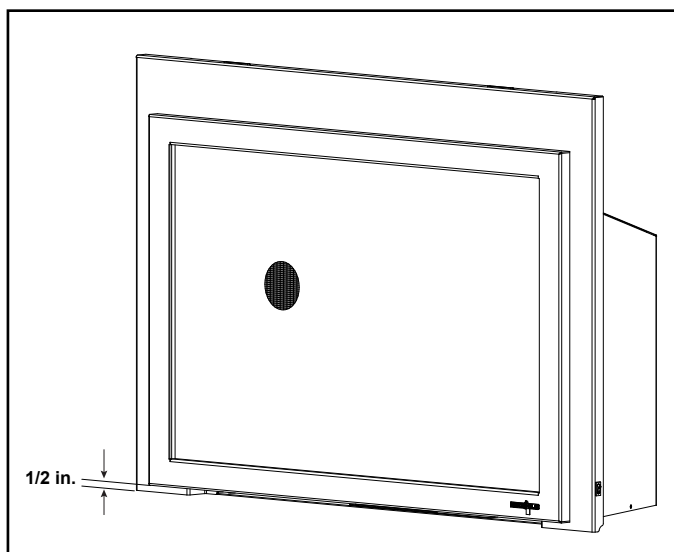

Figure 3.7 Minimum Required 1/2 in. Gap
Minimum fireplace opening requirements for a standard 3/4 inch deep surround are shown in Figure 3.7. For smaller openings, a custom surround is available.
- A metal lip protruding above the hearth pad of the solid fuel firebox may be removed. See Figure 3.7.